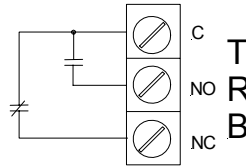

Figure 3-15
- For a detail of the system Trouble Status output contact terminal connections (shown in the trouble position), see Figure 3-15.